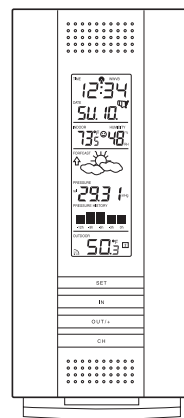

Figure 1
1. WS-7394U-IT- Wireless Weather Station (Figure 1)